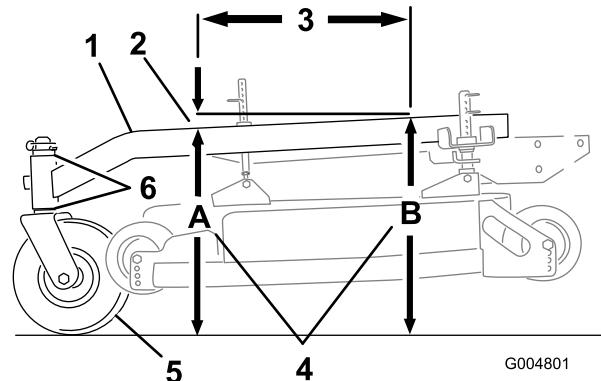

Figure 80
The carrier frame must have a pitch between 1/8 inch (3 mm) to 3/8 inch (9 mm) over the length of 24 inches (61 cm) on the carrier frame (Figure 80).
1. Measure out 24 inches (61 cm) on the carrier frame (Figure 80).
2. Measure carrier frame height at location **A** (Figure 80).
3. Measure carrier frame height at location **B** (Figure 80).
4. The height at location **A** must be an 1/8-3/8 inch (3 mm -10 mm) lower than location **B** (Figure 80).
5. If the carrier frame is not correct, move caster spacers to make it an 1/8-3/8 inch (3 -10 mm) pitch (Figure 80). Move spacers from top or bottom to make the correct pitch.